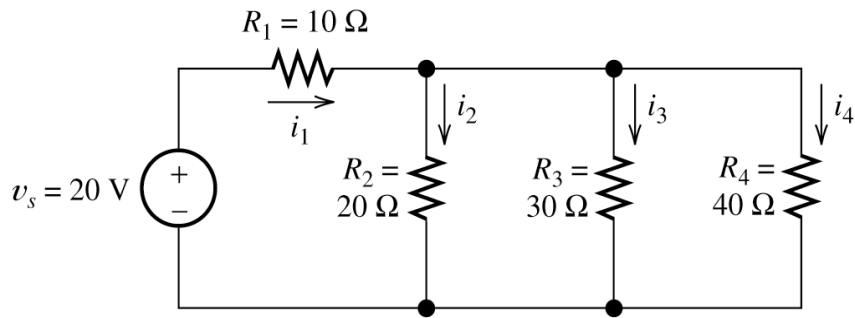
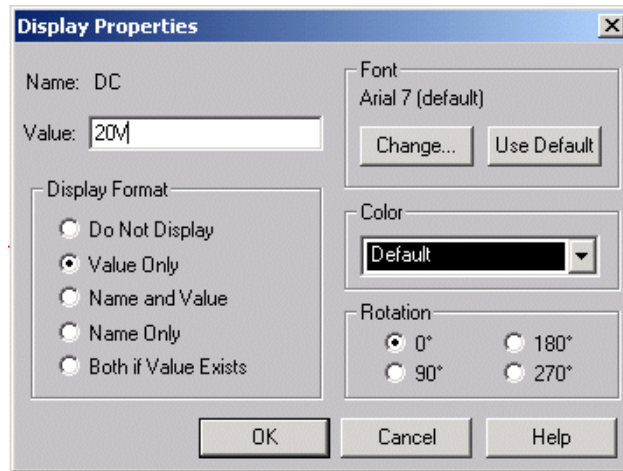
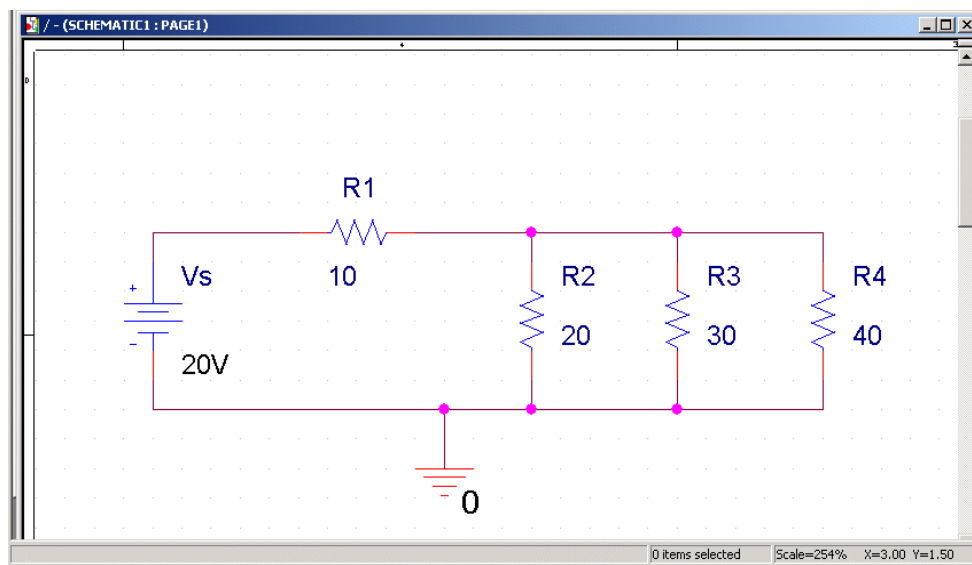

Fig. 4.
Fig. 9.
Fig. 10. Completed circuit.
2. Suppose we want to find voltages, currents and powers dissipated in circuit elements for the resistive circuit in Fig. 4. To draw the diagram of this circuit you must place all parts, connect them by wires, assign values to components and designate one circuit node as the reference node.
Next, we change the default component values to those shown in Fig. 4. Double click on 0Vdc next to the voltage source to bring up the *Display Properties* window, shown in Fig. 9. Enter 20V as the new value and then click on **OK** to close the window.
In the similar fashion, change the values of the resistances so that they match those in Fig. 4. You can also change the names of the elements. For example, V1 may be changed to Vs. Component labels and values can be repositioned on the diagram, to improve appearance; it is done by selecting a label or value and dragging it into a desired position. Then, the circuit should appear as shown in Fig. 10.